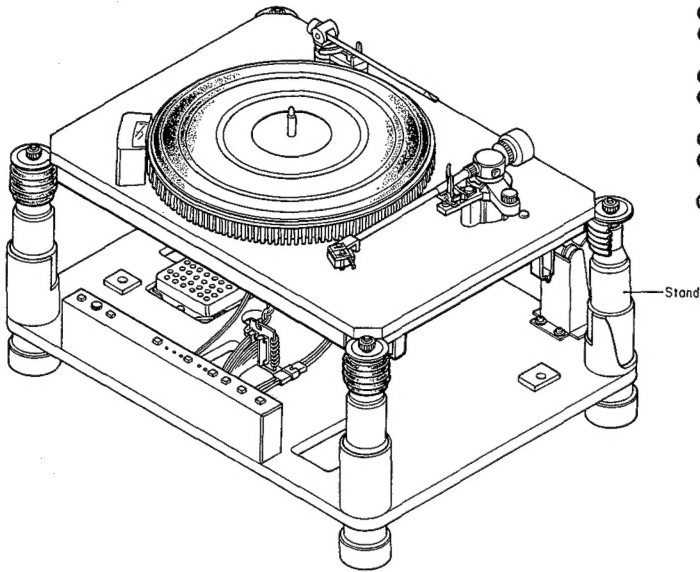

Fig. 3.4
- (1) Hold the Top Board and turn it over and place it on the Stands as shown in Fig. 3.4.